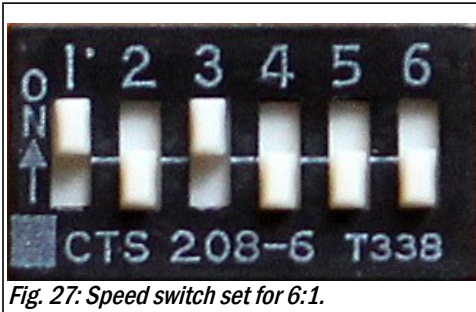

Fig. 27: Speed switch set for 6:1.
- ☐ With power on and the clock running, select a 6:1 speed on S1, as shown here in Fig. 27 (#1 and #3 on, #2, #4, #5, #6 off).